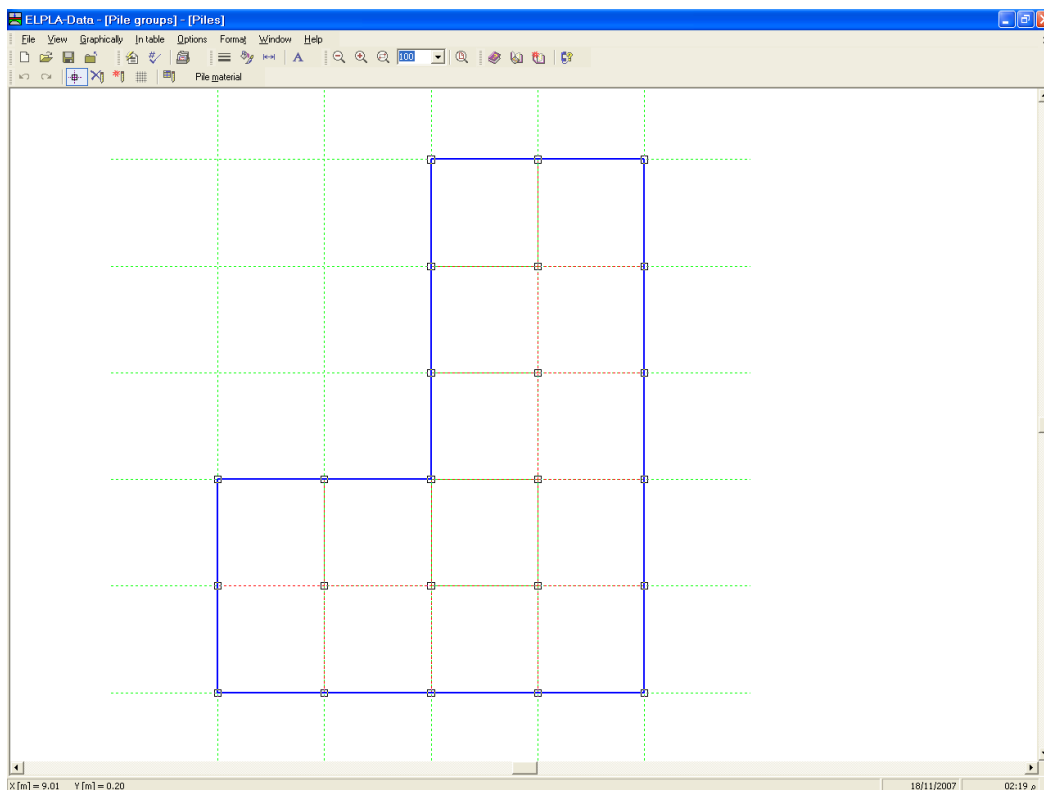
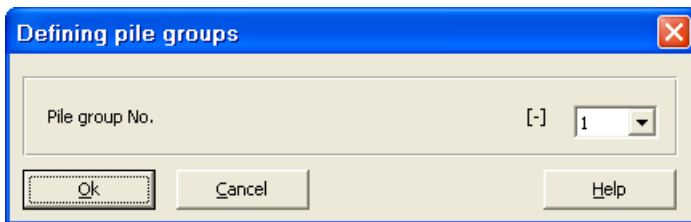

Figure 11-19 Selection of nodes that have piles
Figure 11-20 "Defining pile groups" dialog box
- Select nodes that have piles as shown in Figure 11-19
- Choose "Add piles" command from "Graphically" menu in Figure 11-19. The "Defining pile groups" dialog box in Figure 11-20 appears. In this dialog box click "OK" button